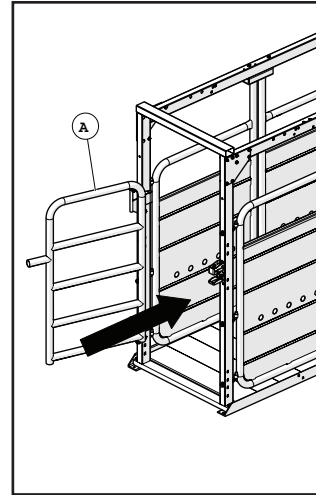

Figure 1: Loading the animal
1. Be sure that the rear gate (a) is fully open and clear of the path of the animal (Figure 1).
1. The animal should approach from the rear of the chute as shown (Figure 1).